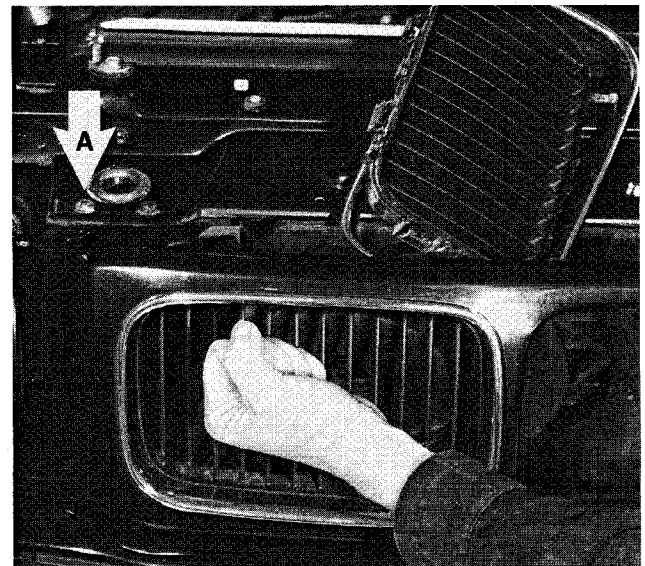

Fig. 17. Radiator grille being tapped inward. Right side front panel top retaining screw is shown at **A**.
2. Lightly tap center of grille toward radiator and remove from panel opening. Chrome ring pulls out from front. See Fig. 17.
5. Remove front panel top retaining screws near hood latches. Refer to Fig. 17.